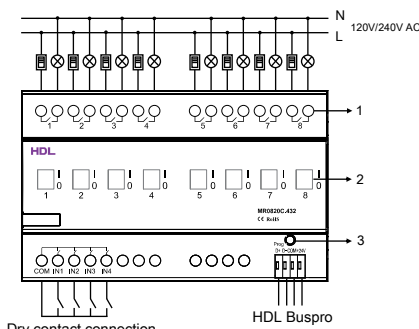

Figure 8. Wiring
Wiring - See Figure 8 - 9 (Take the connection of HDL-MR08(12)20C.432(433) as examples)